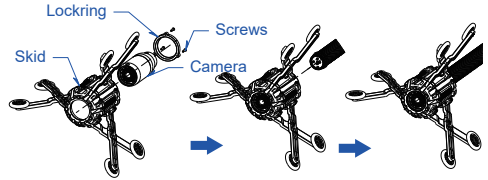

Figure 14. 120 Roller skid
2) Install 120 Roller Skid.(See Figure 14)